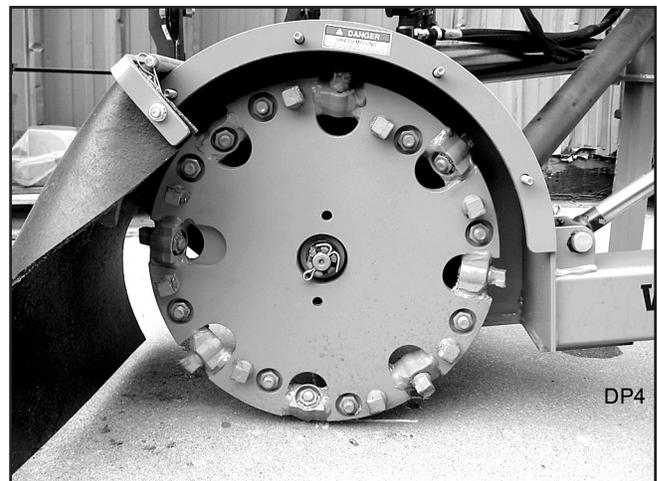

Figure 10. Cutting Wheel and Hardware
3. Remove cotter pin and slotted hex nut from end of horizontal gearbox shaft and remove wheel and hub (Figure 10).